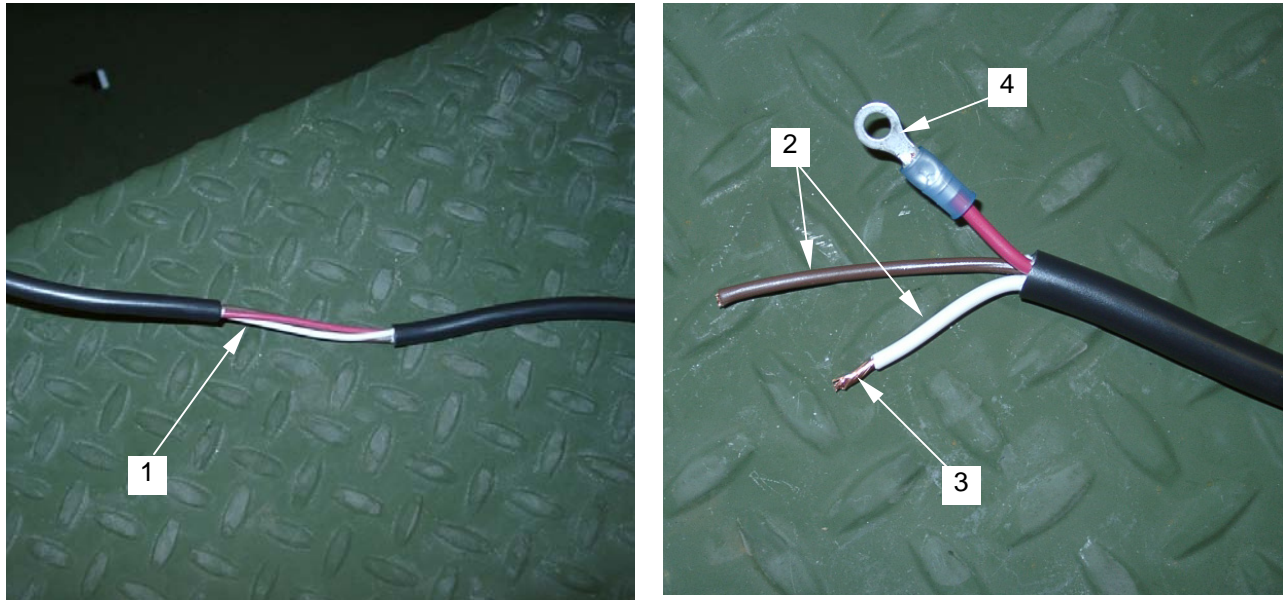

Figure 12. Wire Insulation
12. Strip 6-in of outer insulation off of wire (**figure 12, item 1**).
13. Cut and strip new wire to same length as wires removed (**figure 12, item 1**).
14. Strip 3/8-in insulation off individual wires (**figure 12, item 1**).
16. Crimp ring terminals on wires (**figure 12, item 4**).